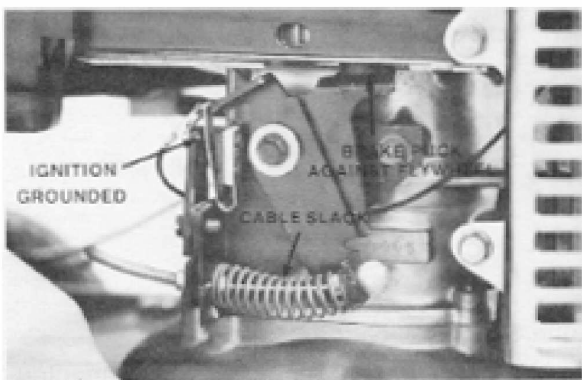

Figure 3-17
3. With the control bail in the "off" or "stop" position, the brake pad is against the flywheel and the brake lever is contacting the ground tang. This will ground the ignition and stop the engine. See Fig. 3-17.